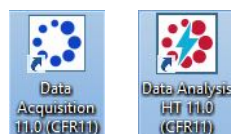

Figure 4-39: Octet Data Acquisition and Data Analysis HT CFR Software Desktop Shortcuts
1. Launch the Octet Data Acquisition or Data Analysis CFR software by double-clicking on the desktop shortcuts (Figure 4-39):